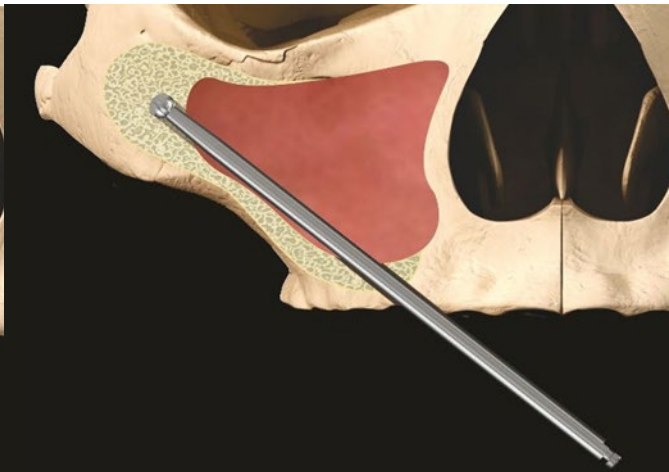

Figure 14
3. The entrance point on the alveolus is made using a round burr (D-ZYG-RB)* or a needle drill (026.0054) and continued through the wall of the maxillary sinus to the cavity seen through the sinus window (Figure 14) (D-ZYG-RB recommended drill speed: 1000-1500 rpm; 026.0054 maximum drill speed: 800 rpm).